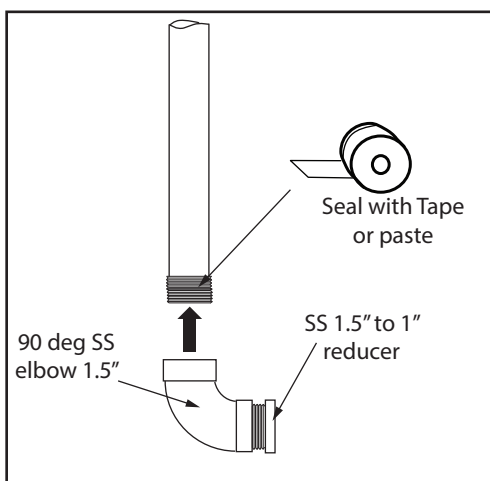

FIG. 22
- A) Attach provided steel 90 degree elbow to pipe with sealing tape or paste (see FIG 22)
Refer to FIG 22 - 27 for assembly procedure. After assembling, attach to existing clamps in place of 1.25" pipe from other supplier.